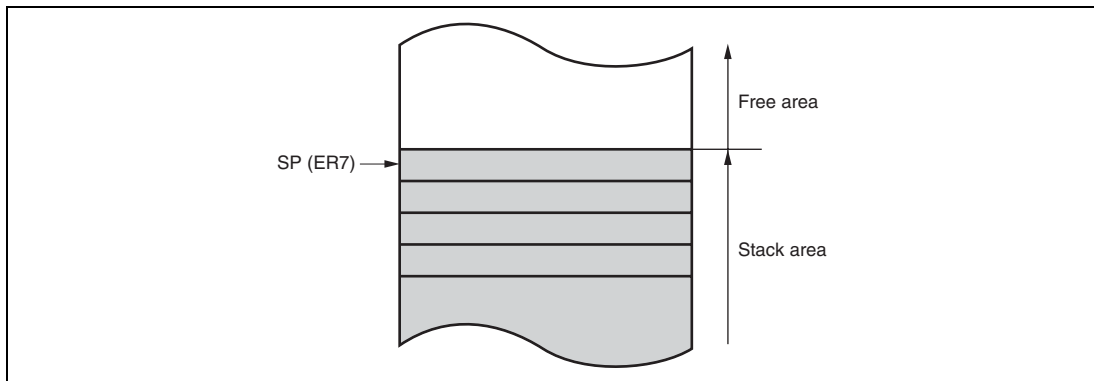

Figure 2.8 Stack
General register ER7 has the function of the stack pointer (SP) in addition to its general-register function, and is used implicitly in exception handling and subroutine calls. Figure 2.8 shows the stack.